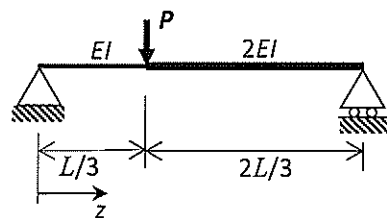

Figure 4b
- (b) Figure 4b shows a simply supported beam subjected to a downward point load at $z = L/3$. The flexural stiffness of the beam is EI for $0 \leq z < L/3$ and $2EI$ for $L/3 \leq z < L$. Determine the vertical deflection of the beam at $z = L/3$. [35%]